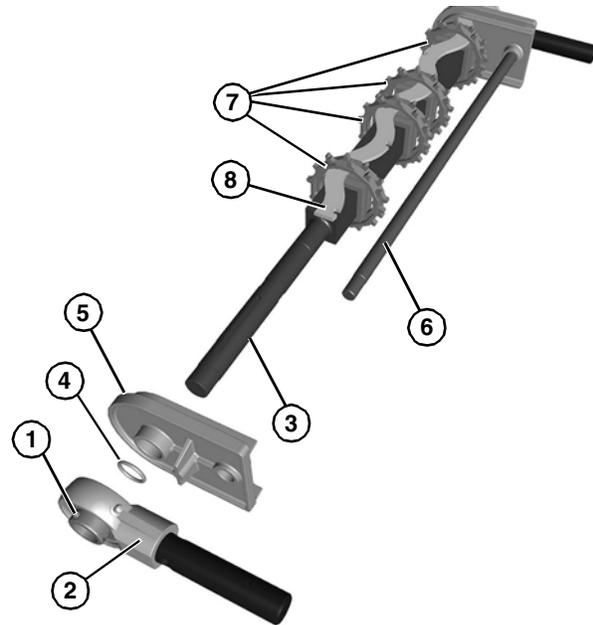

Figure 62
7. Use a hex wrench to loosen two set screws (**Figure 62, item 1**) on the bearing shaft assembly.
8. Slide the bearing shaft assembly (**Figure 62, item 2**) off the drive spindle (**Figure 62, item 3**).
*When removing tracking plate, be certain not to lose O-ring (**Figure 62, item 4**).*
9. Slide the tracking plate (**Figure 62, item 5**) off the drive spindle.
10. Remove pinch guard shaft (**Figure 62, item 6**).
11. Remove the sprockets (**Figure 62, item 7**), and alignment bar (**Figure 62, item 8**).